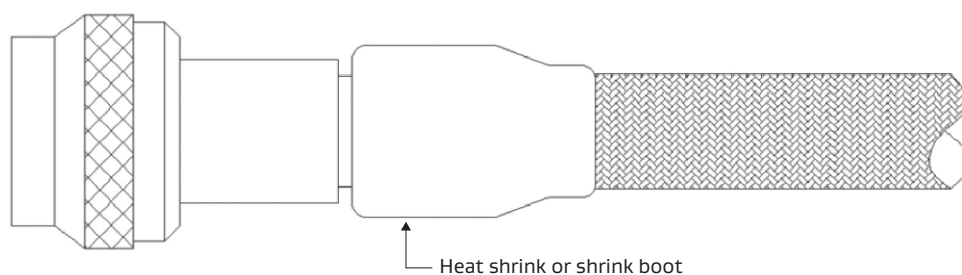

Figure 14: Sliding the heat shrink or shrink boot
11. Slide the heat shrink or shrink boot over the band strap (Figure 14).